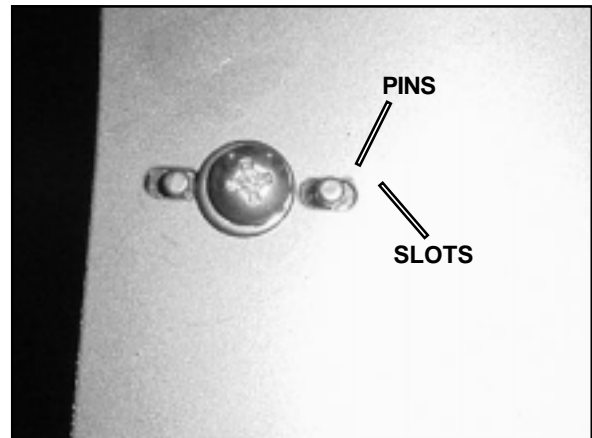

Figure 2. Door gap adjustment (back side of frame)
6. Loosen the screw on the backside of the door frame and slide the hinge block pin(s) within the slot(s) to adjust gap (see Figure 2).